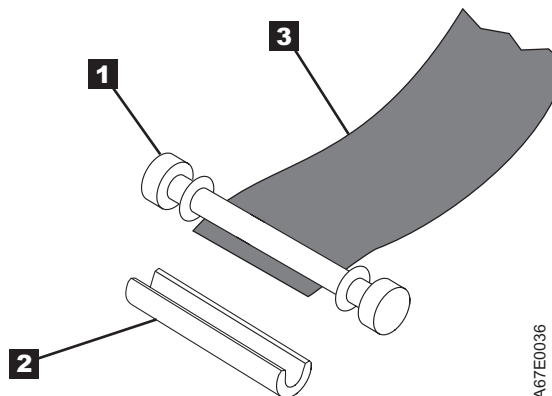

Figure 77. Removing the C-clip from the leader pin. Use your fingers to push the C-clip from the leader pin.
5. On the leader pin (**1** in Figure 77), locate the open side of the C-clip (**2**). The C-clip is a small black part that secures the tape (**3**) to the pin.